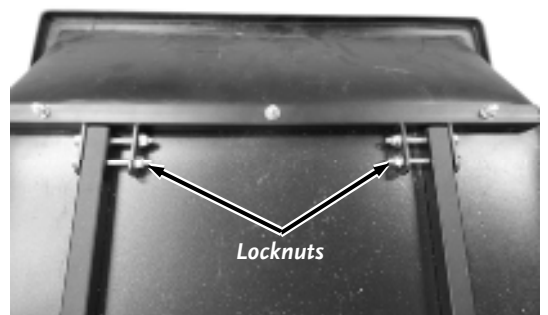

Figure 10
5. Remove the Locknuts from the front of the Bed Frame and use a 1/2" Wrench to turn the Front Bed Bolts out so the end of the threads are flush with the inside of the Frame opening (Figures 10 and 11).